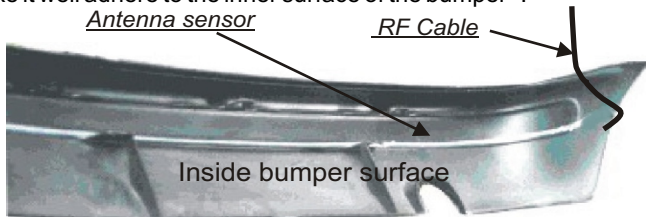

Fig. 2
**B)** Through the individuated passages route the RF cable from the dashboard leaving the fast on outside. (Fig. 2)